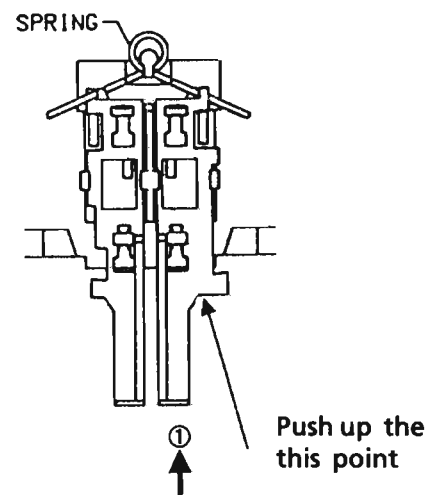

Fig 8
1. Remove the (1)(2)(3)and (4),(5),(8) .
3. Push up the Elever as shown in the figure below(Fig .8) and remove the door lock plate.